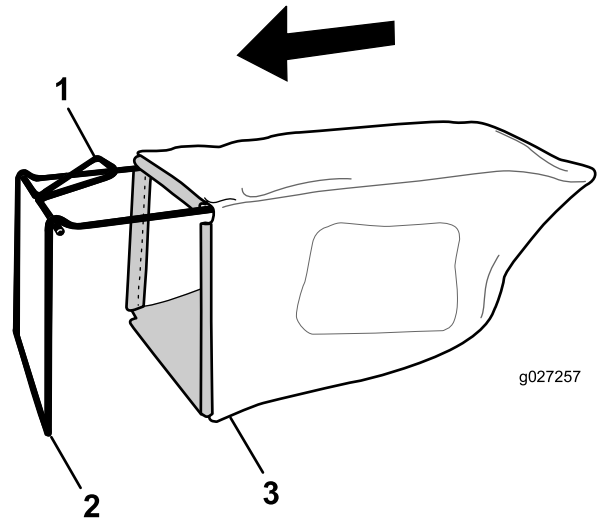

Figure 8
1. Slip the grass bag over the frame as shown in Figure 8.
**Note:** Do not slip the bag over the handle (Figure 8).